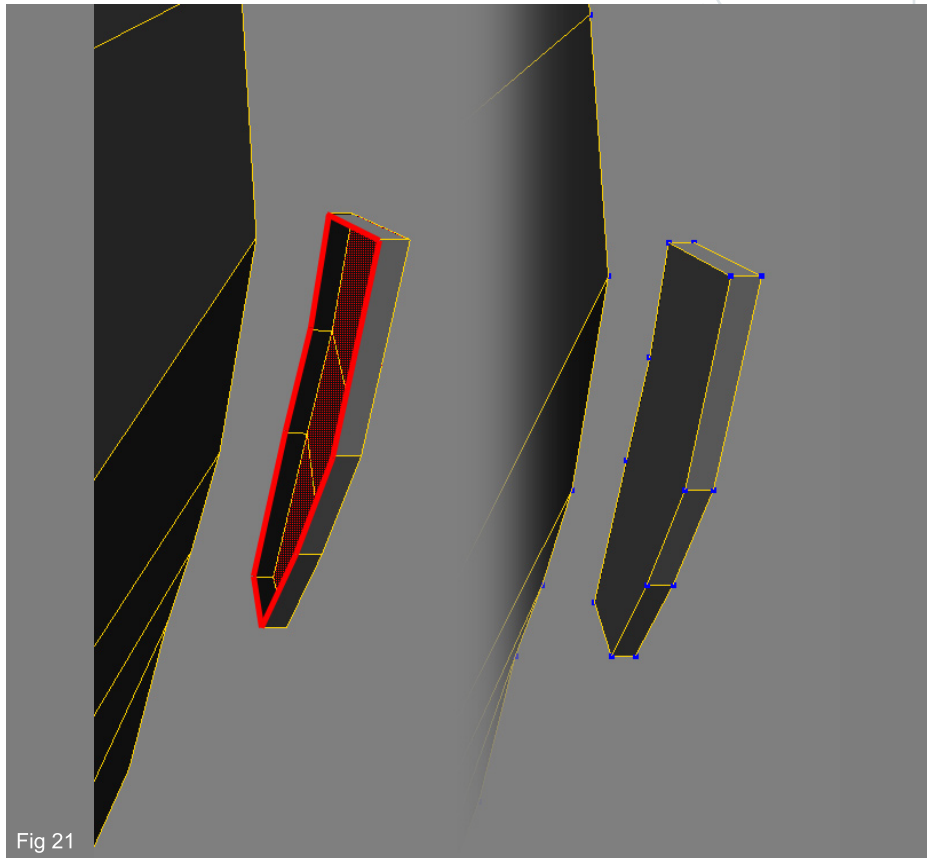

Fig 21
21. If you look at the inner part of the ear (the one facing the head) you will notice that there is a hole in the mesh (outline marked in red in Fig21). We need to fix this. Select the contour of the hole, then use the Ctrl + D and Ctrl + Del shortcuts to fill the hole. Finally, select the vertices that were created in the middle of the inner part of the ear, and delete them with Dissolve and Clean Adj. Vertices.